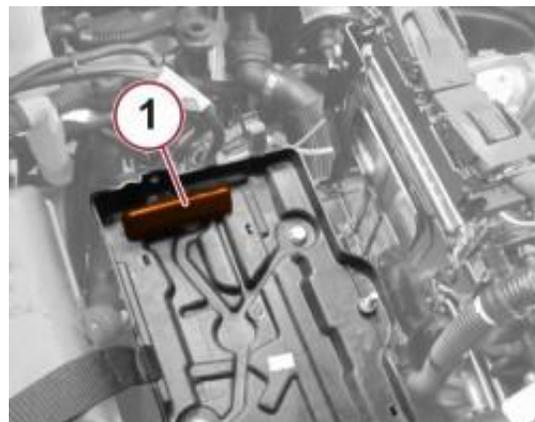

Figure 5 – Battery Holder Bracket
9. Remove the battery holder bracket (1) from the battery tray (Figure 5).
13. Install the battery retaining bracket to the battery tray and engage the retainers (Figure 5).